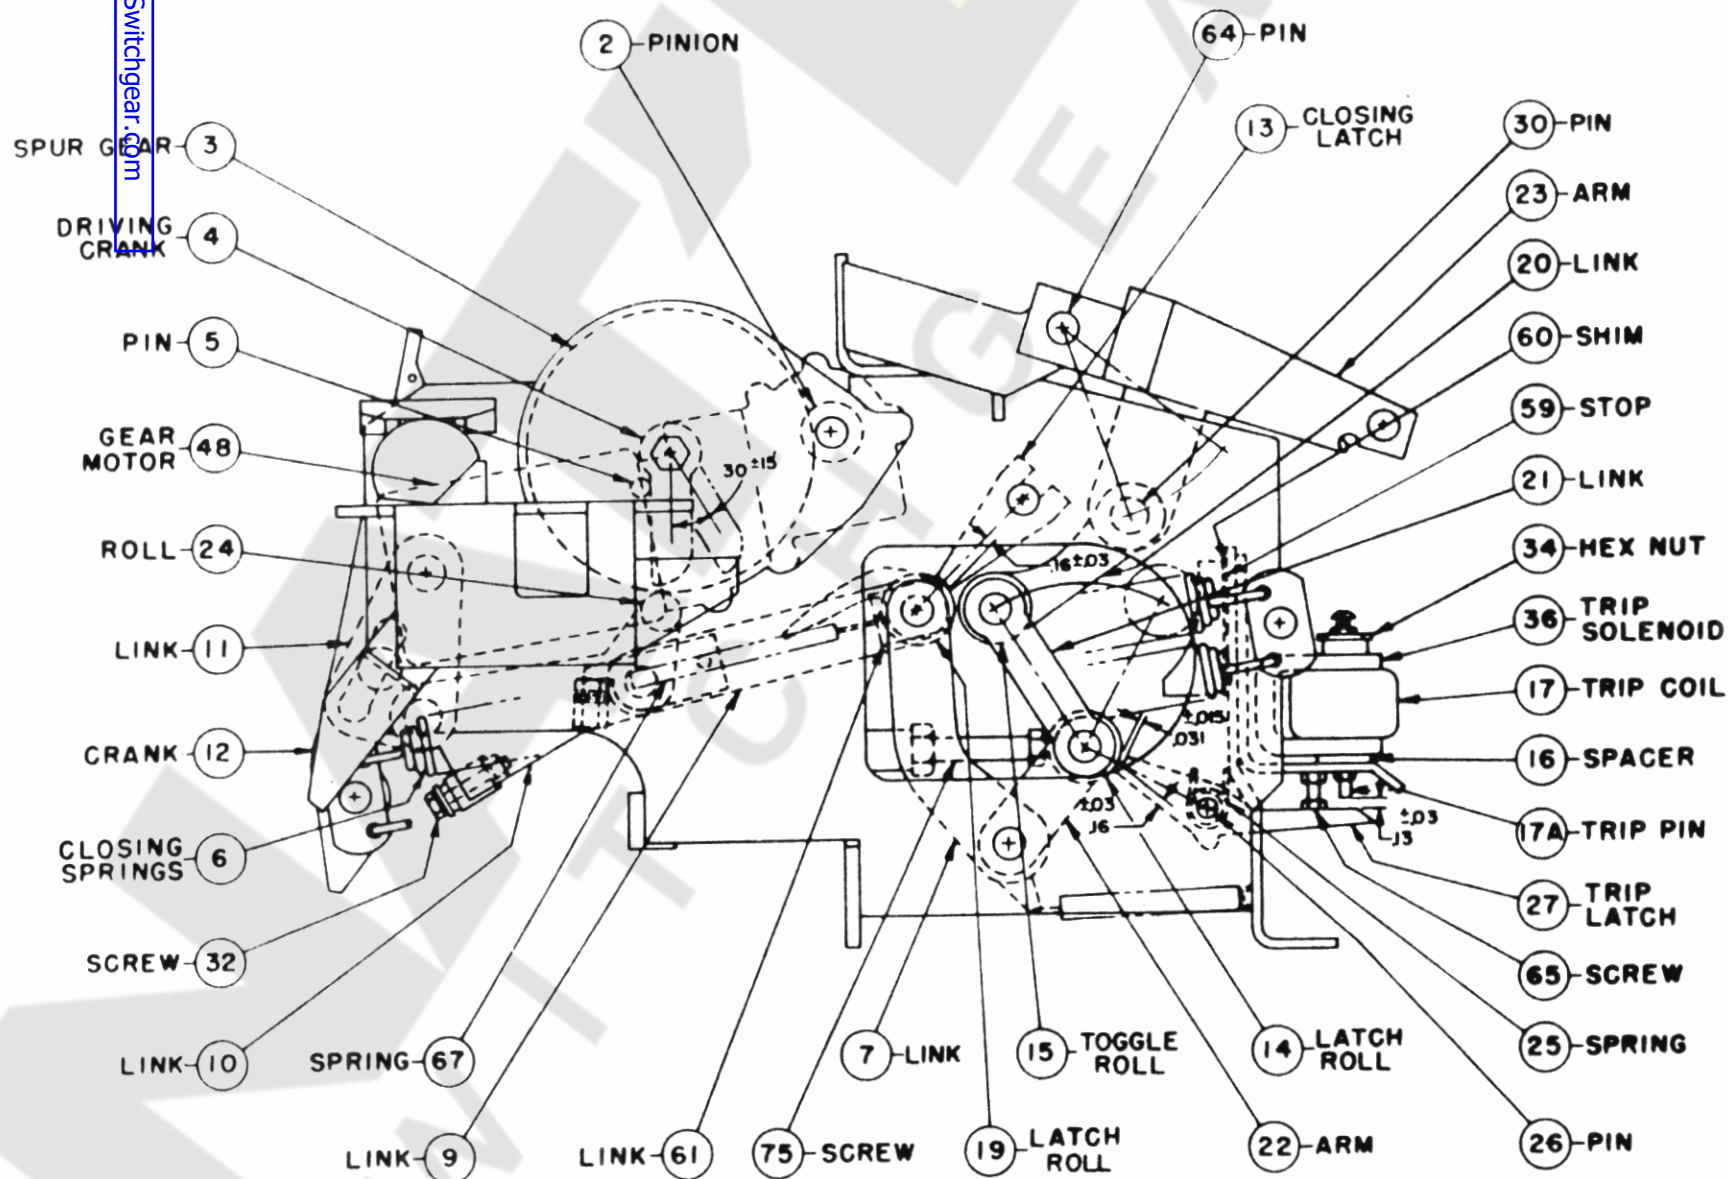

FIG. 4B
See Fig. 4B. The current adjustment of the toggle roll (15) is as follows:
2. Toggle roll against stop (59).
3. Center of toggle roll should be $3/16$ to $5/16$ inch beyond centers of lower latch roll (14) and pin (30).
4. Add or remove shims (60) behind stop (59) to adjust.
See Fig. 4B. The trip latch should engage the latch roll $1/8$ to $3/16$ of an inch above the lower edge of the latch face with the breaker closed. Adjust screw (65) for proper engagement.